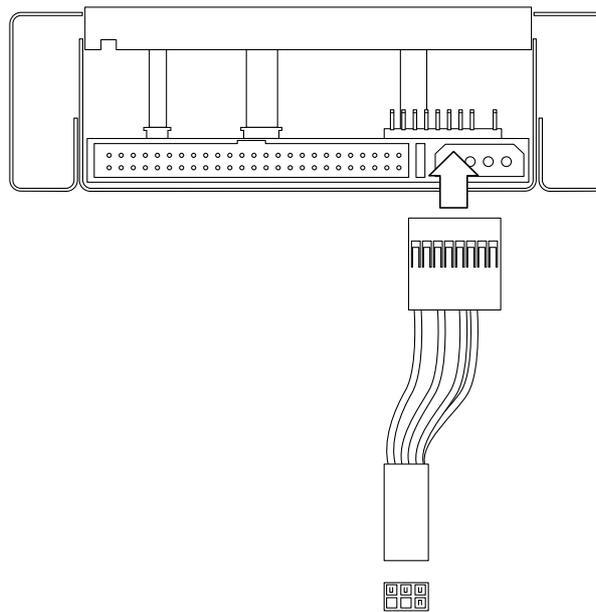

Figure 1-2 Location of SCSI Address Connector
The autoloader's SCSI address is set by the connector shown in Figure 1-2.
- a. For systems that have a SCSI address cable, connect the adapter as shown in Figure 1-2.